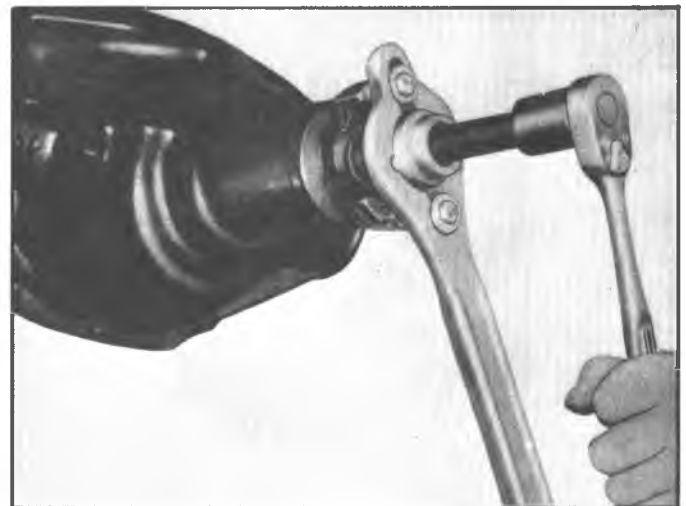

Fig. 13B—Drive Pinion Flange Removal
5. Thread end of J-8614-3 into small O.D. end of J-8614-2. Then with J-8614-11 installed as in step 3, insert J-8614-2 into J-8614-11 and turn it 1/8 of a turn to locked position. Remove flange by turning J-8614-3 while holding J-8614-11 as shown in figure 13B.